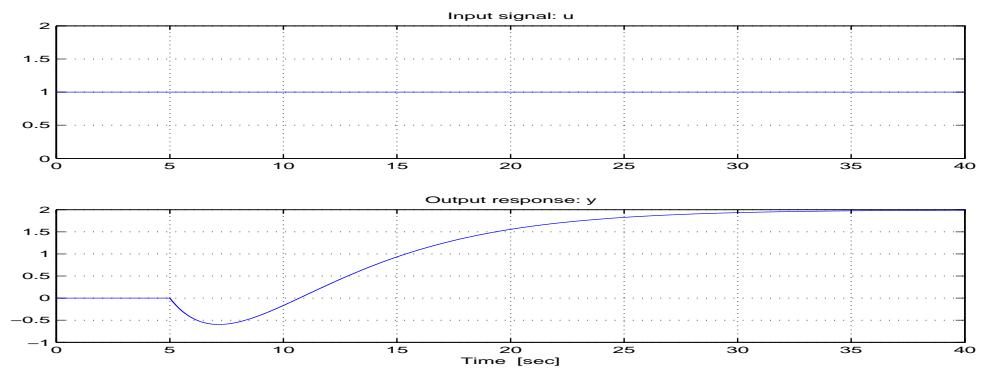

Figure 3: Time response of dynamic system from input u to output y .
- Given the input and output transient responses, $u = u(t)$ and $y = y(t)$ respectively, as illustrated in Figure 3. Propose the structure of the corresponding transfer function $h_p(s)$?